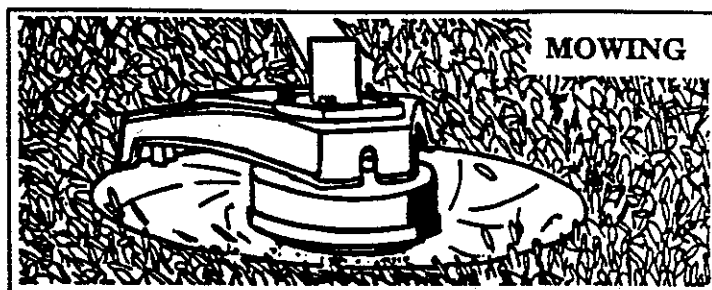

Figure 19
3. **MOWING** - Figure 19. Your trimmer is ideal for mowing in places conventional lawn mowers cannot reach. In the mowing position, keep the line parallel to the ground. Avoid pressing head into ground as this can scalp ground and damage unit.